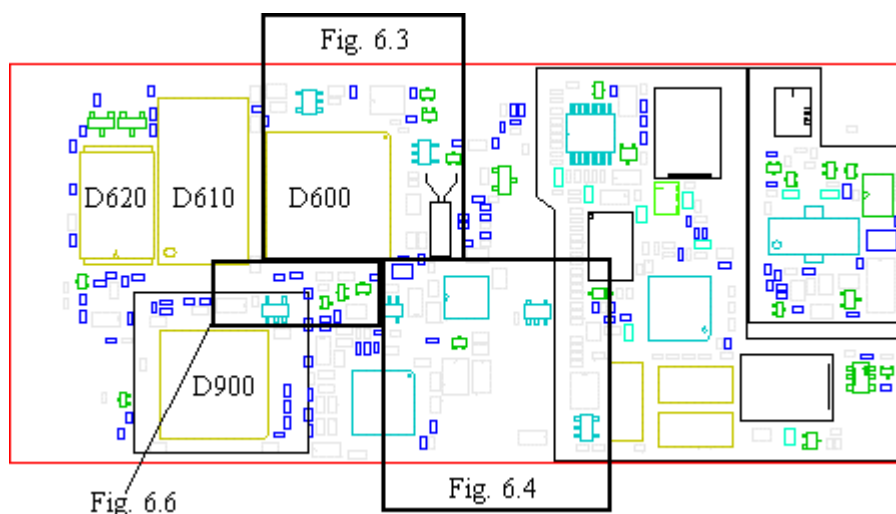

Fig. 6.2
Make sure there aren't any faulty solderings at D600, D610 or D620 (fig. 6.2).
- If the phone starts after programming it you have probably solved the problem. To eliminate the risk for intermittent faults make sure the board isn't water damaged and that D600, D610 and D620 (fig. 6.2) aren't incorrectly soldered.
If all of the feed voltages are correct, measure the amplitude of the 13MHz master clock at C680 (class A, >0.6V t-t, fig. 6.4). D900 (fig. 6.2) usually gets hot when the clock signal is missing.